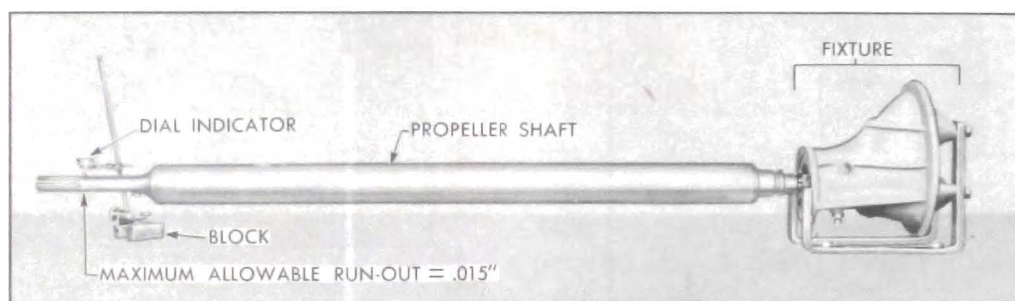
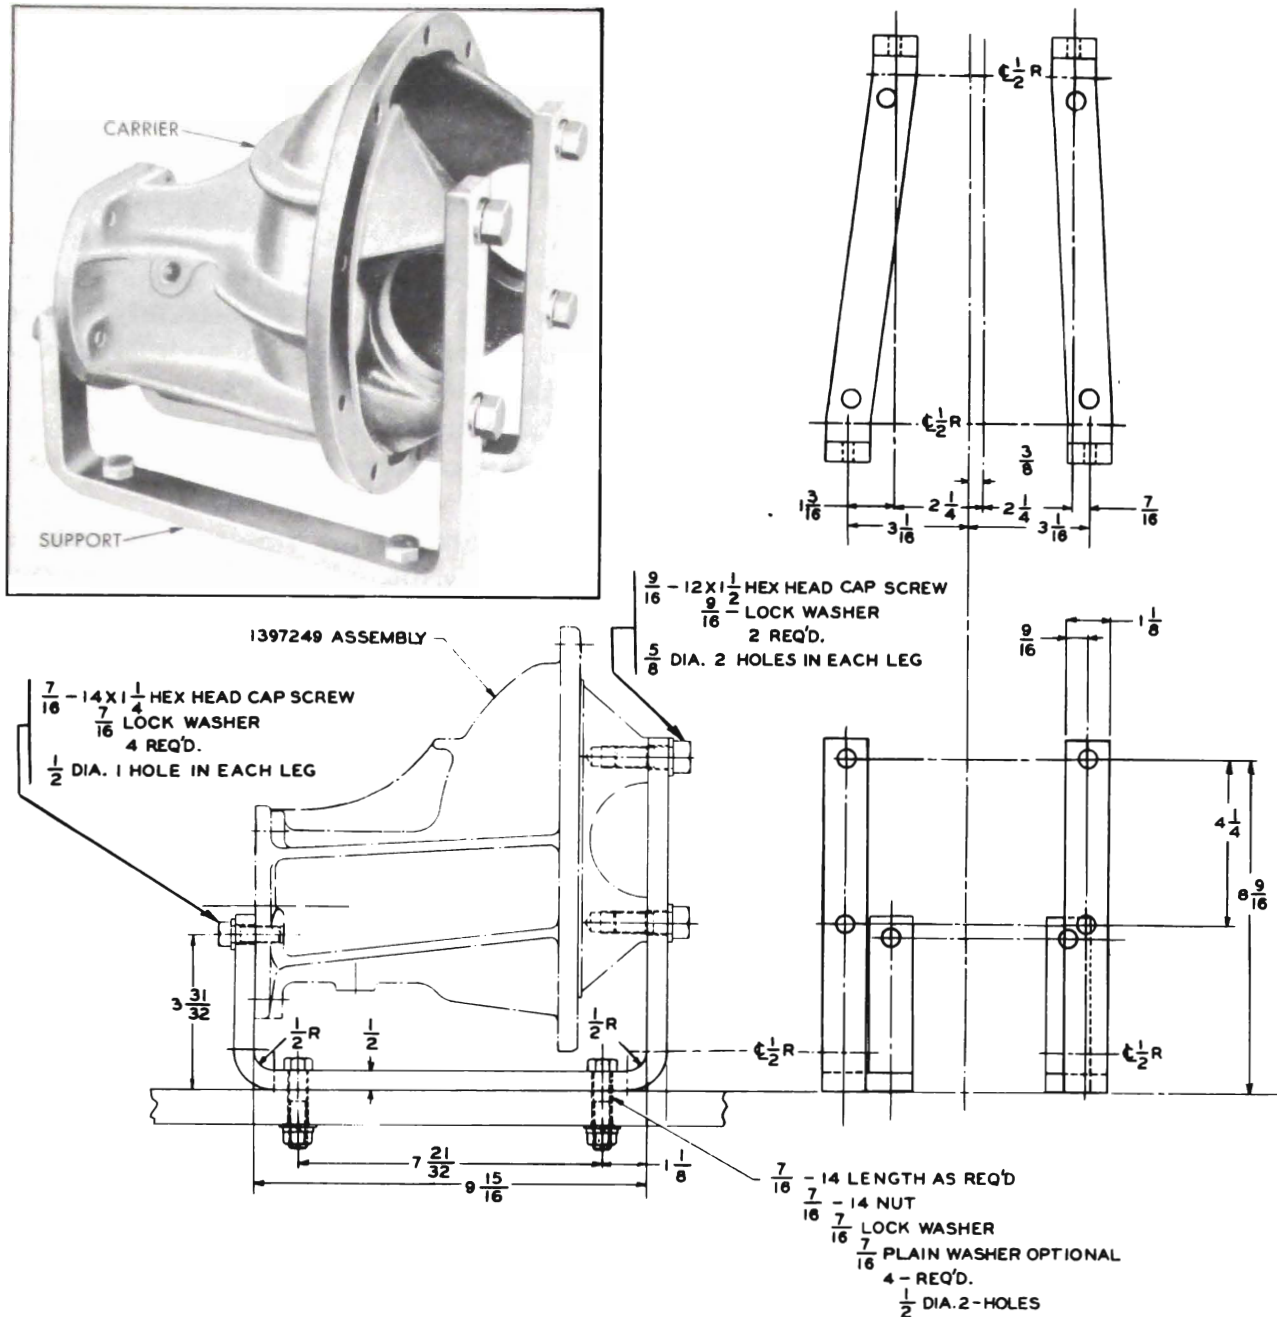

Figure 5-19—Straightening Propeller Shaft in Fixture
Figure 5-20—Fixture for Straightening Propeller Shaft
The pinion and propeller shaft assembly may be quickly and satisfactorily checked and straightened by means of the fixture shown in figure 5-19. This fixture should be made locally, using any 1940 through 1949 model Buick differential carrier, as shown in figure 5-20.
2. Mount a dial indicator on a rod fastened to a block of sufficient weight to hold the indicator button firmly against the ground portion of the propeller shaft, just to the rear of the splines as shown in figure 5-19.
If the fixture shown in figure 5-19 is not available, the pinion and propeller shaft may be checked and straightened using V-blocks or rollers and a dial indicator.